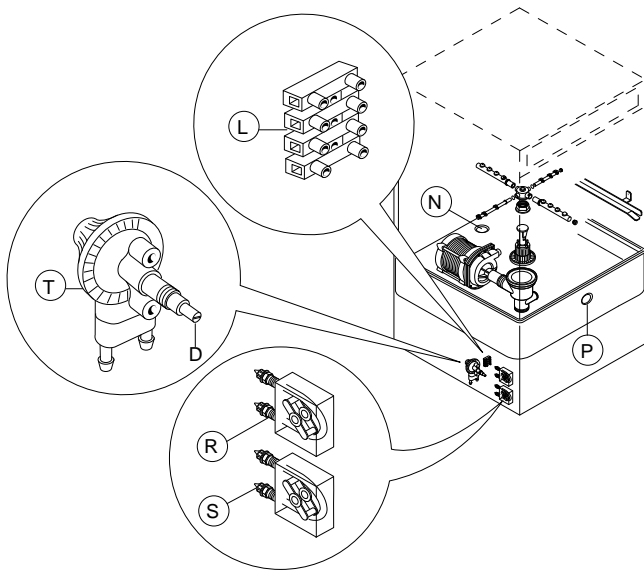

Fig. 1 Automatic dispenser overview
1. Dishwasher with incorporated liquid detergent dispenser (Fig. 1)
2. Dishwashers with incorporated peristaltic rinse-aid dispenser pump (Fig. 1)
3. Dishwashers with incorporated rinse-aid diaphragm dispenser pump (Fig. 1)
- The appliance has a terminal board for the power supply of dispensers operating at 230 V, max. power 30VA. Connect to the terminal board "L" (Fig. 1) to terminals 1 and 2 for dispensing during the rinse cycle or to terminals 3 and 4 for dispensing during the wash cycle.
To change the dispensed amount, turn  on screw "D" accordingly (Fig. 1).